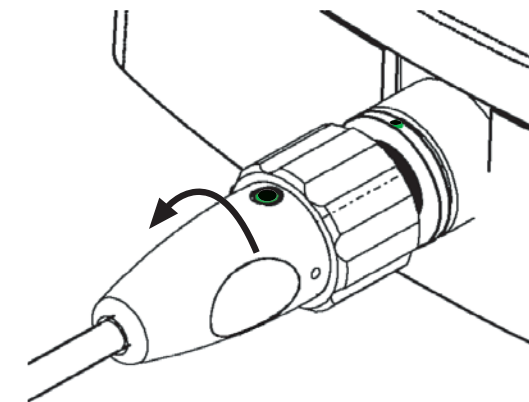

Figure 8b. Switching to backup lamp
- b. While pushing, rotate the fiberscope handle 180 degrees in a counterclockwise direction, as shown in Figure 8b.